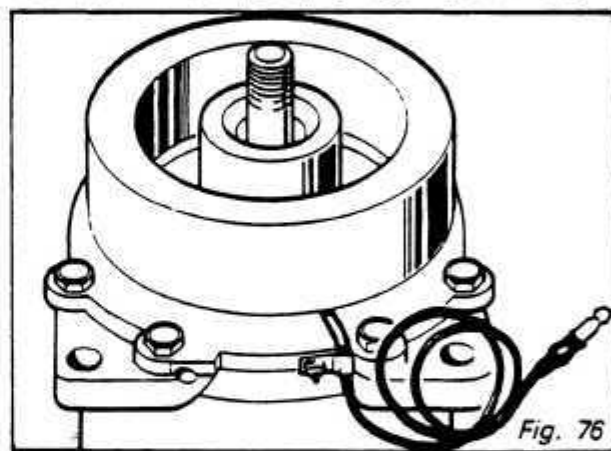

Fig. 76
- Loosen coil lead wire from clip on top of compressor front housing. (Earlier models do not use this clip.) *Fig. 76*